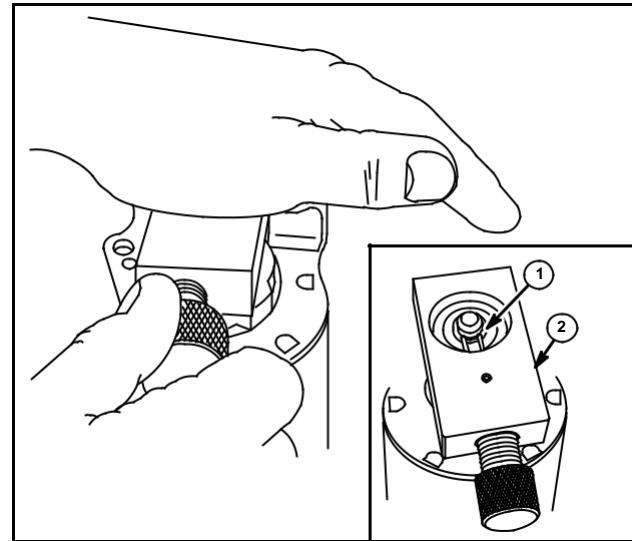

Fig. 57
1. Remove C-ring retainer using Tool# 19436, C-Ring Retainer Removal Tool, Fig. 57. Place counterbored side of tool over retainer and align drive pins with open end of C-ring. Place palm of hand over tool. Push down on tool to compress spring washer while turning screw clockwise. Continue turning screw until C-ring retainer pops off. Discard old C-ring.